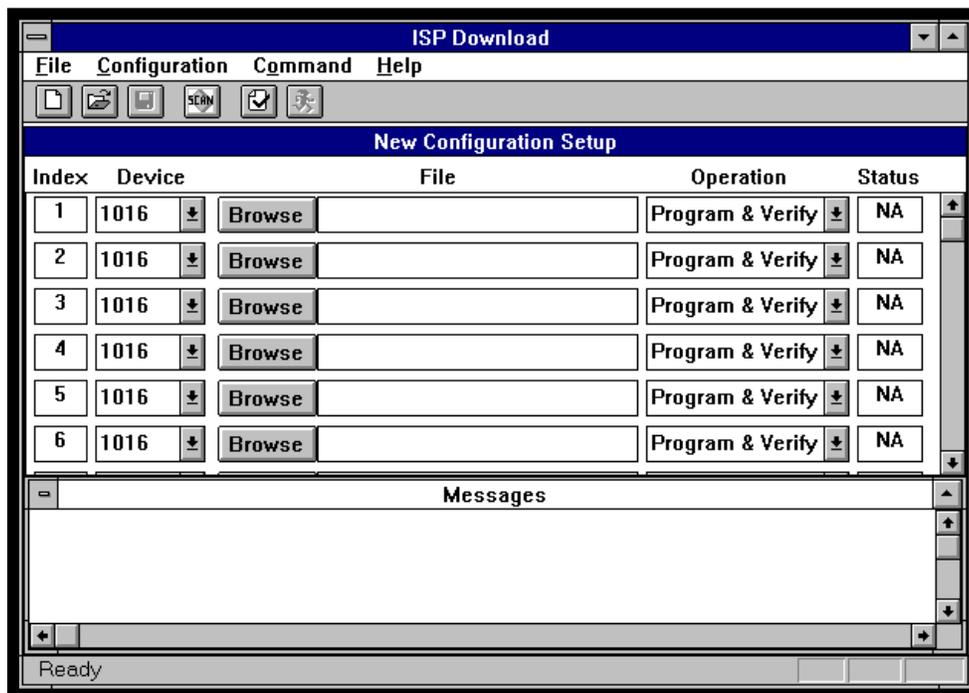

Figure 3-5. New Configuration Setup Dialog Box
2. Enter a number in the device field, click **OK** to execute, and Figure 3-5 appears. Select **Cancel** to close the dialog box and return to the ISP Daisy Chain Download window. The scroll arrows and box appear to the right of the Status column if you choose a number greater than six. The default device is the ispLSI1016.